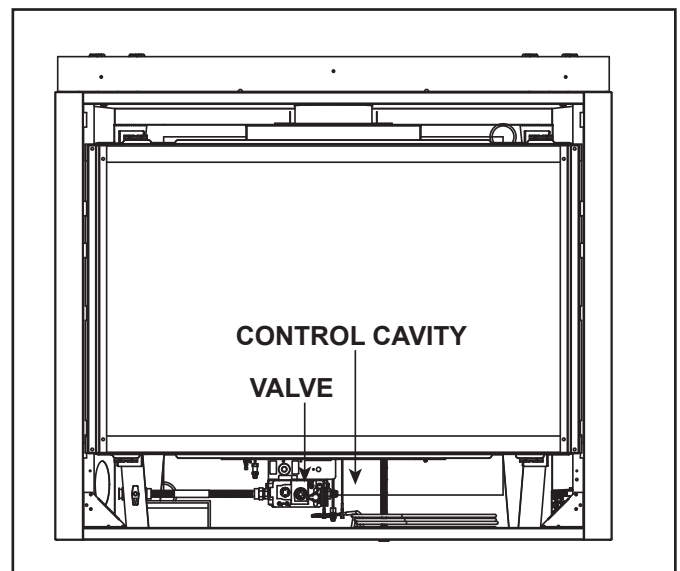

Figure 3.5 Control Cavity - Generic Appliance Shown
The QUARTZ32 and QUARTZ36 models have a variable burn rate which is controlled by the HI/LO knob on the gas valve. Therefore the flame height is adjustable. The HI/LO knob is shown in Figure 3.5. It is located in the control cavity of the appliance. The HI/LO knob may be adjusted as desired by turning counterclockwise to the HIGH position and by turning clockwise to the LO position.
The IntelliFire intermittent pilot ignition system comes with a battery backup system that enables the system to operate in a power outage. A factory-installed battery pack is located in the control cavity of the appliance. See Figure 3.5. Batteries should not be placed in the battery tray while using electrical power to operate the fireplace. Remove batteries from battery tray when power has been restored.
1. Access the control cavity of the appliance. See Figure 3.5 for location. The decorative front or door may need to be removed.
2. Locate the battery tray and insert two D cell batteries. Battery polarity must be correct or module damage will occur. See Figure 3.5. A complete wiring diagram is included in the Electrical section of the appliance Installation Manual.